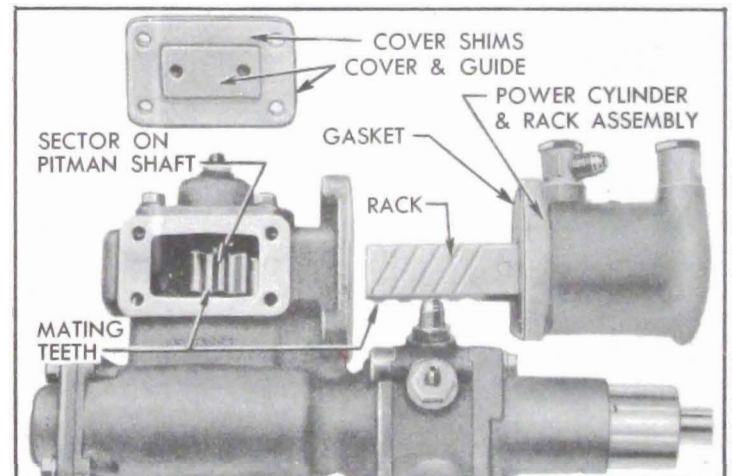

Figure 7-18—Position of Rack and Sector for Installation of Power Cylinder
25. Turn steering shaft clockwise to limit of travel. Push power rack in against stop plate in cylinder adapter. Install power cylinder and rack assembly on gear housing with a *new* gasket. The end tooth of rack must mesh between the two end teeth in pitman shaft sector. See figure 7-18.